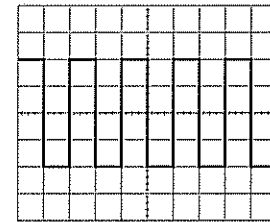

Figure 4-3
- 5) Set the AC-GND-DC switch to the AC state. A waveform as shown in the figure 4-3 will be displayed on the CRT screen
- 8) Adjust the \blacktriangleleft POSITION and \blacktriangleright POSITION controls in appropriate positions so that the displayed waveform is aligned with the graticule and voltage(Vp-p) and period(T) can be read conveniently.